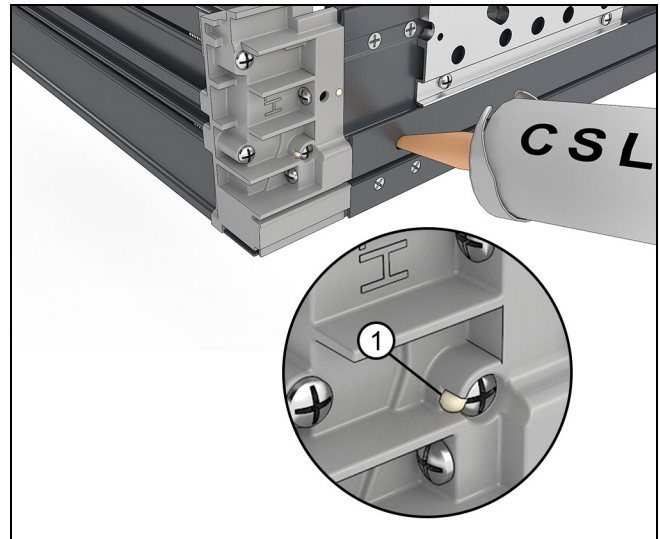

Figure 24 CSL 343
12. Inject sealant in the hole next to the nail fin kerf until sealant comes out of at the location indicated in Figure 24.